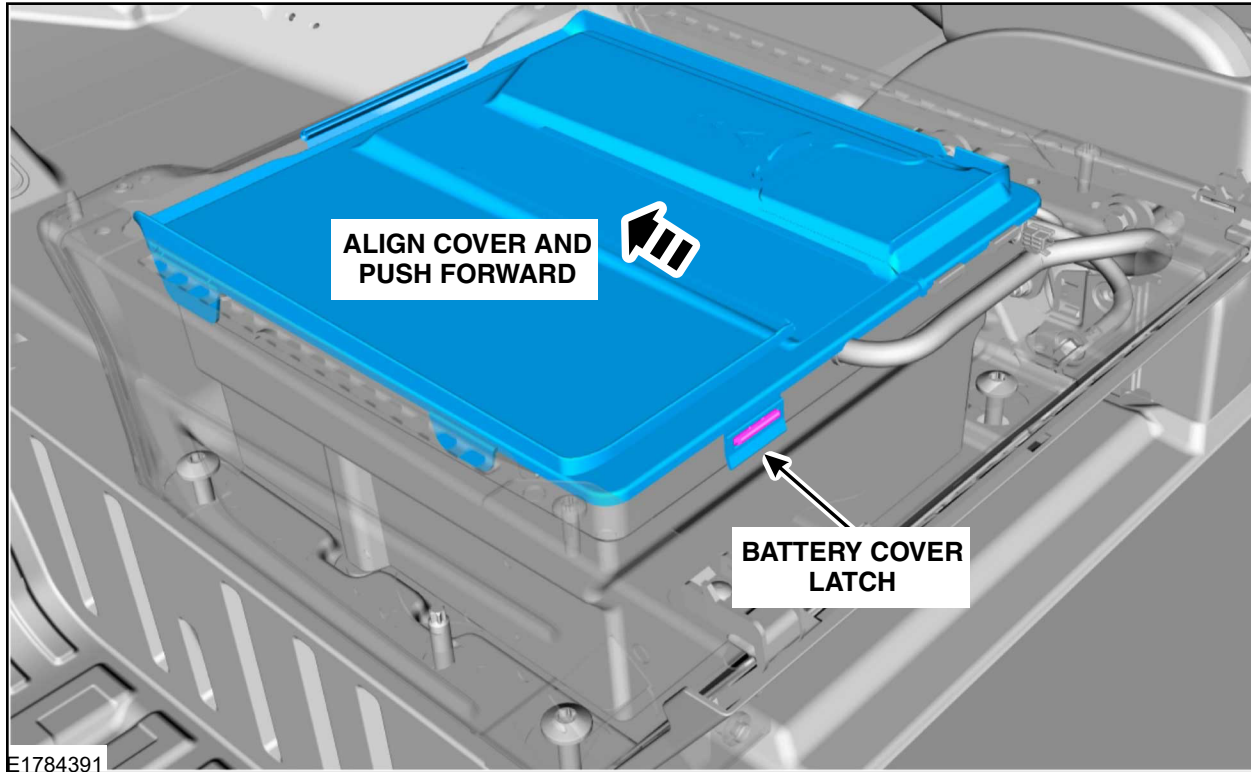

FIGURE 26
1. Attach the battery cover and latch the cover back in place. See Figure 26.